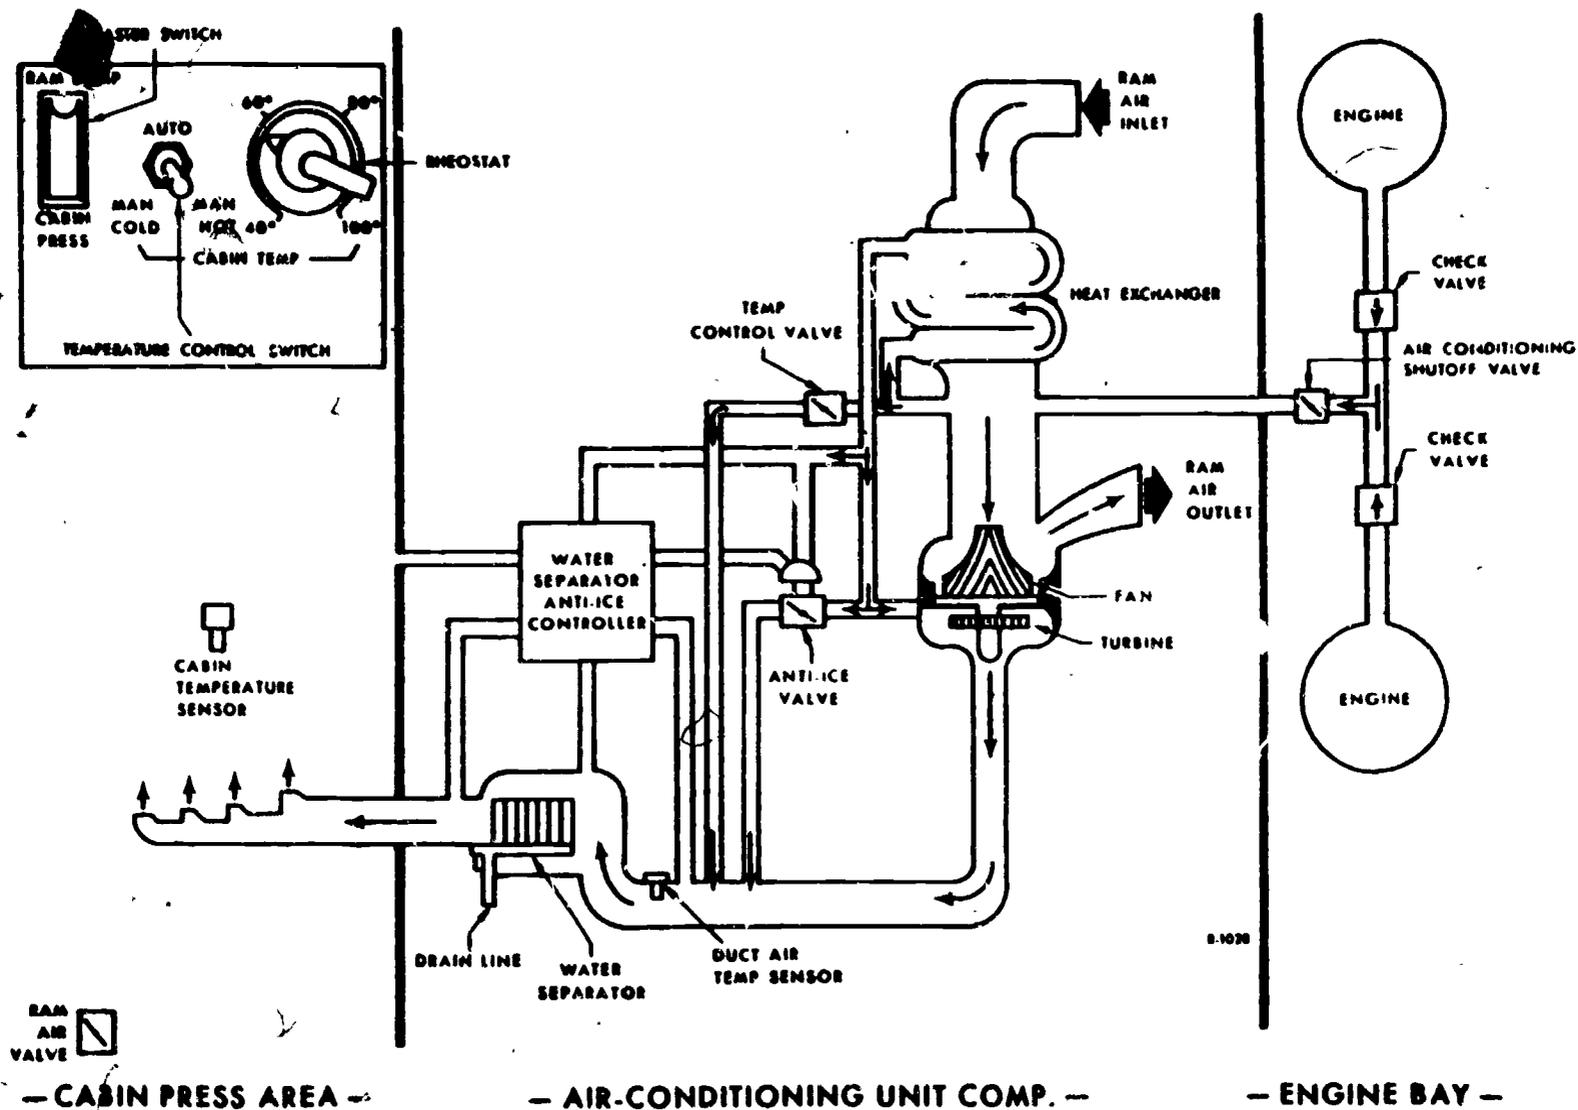

Figure 1. Air Conditioning System Trainer Layout.
2. Look at figure 1 on page 3. This figure shows the trainer that you will be working with and will help you to locate the various components. You must be able to locate and identify each component to correctly perform the operational check and troubleshooting. After you are familiar with the trainer you may continue with this lesson.